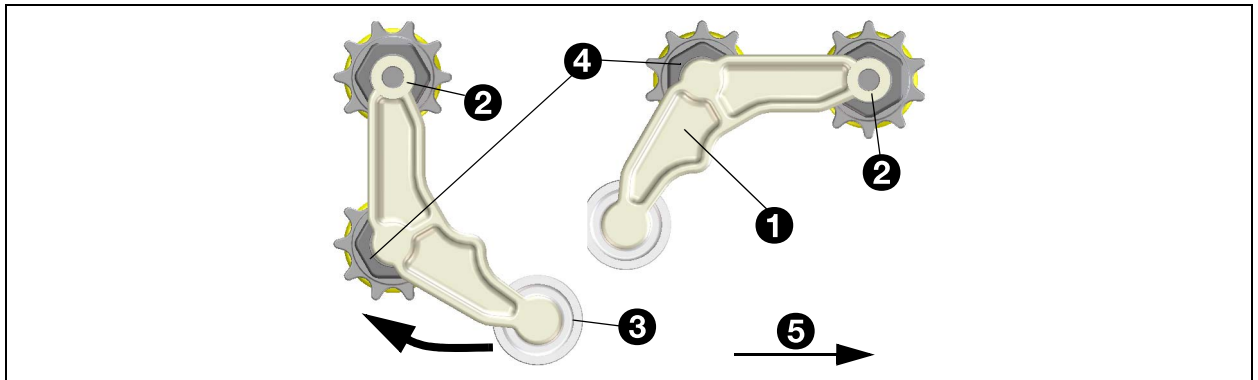

Fig. 52 - Roll set
The roller set (1) is used with the placement unit as a single roller. The first roller (2) of the double roller set is carried along by a U-holder(\*) (6). See fig. 52 and fig. 53.
The first roller (2) hangs in the U-holder at the start of the placement unit. After placement the wheel (3) is pushed upwards by a guide (7), fig. 54, during the transport. See fig. 52 and fig. 54.